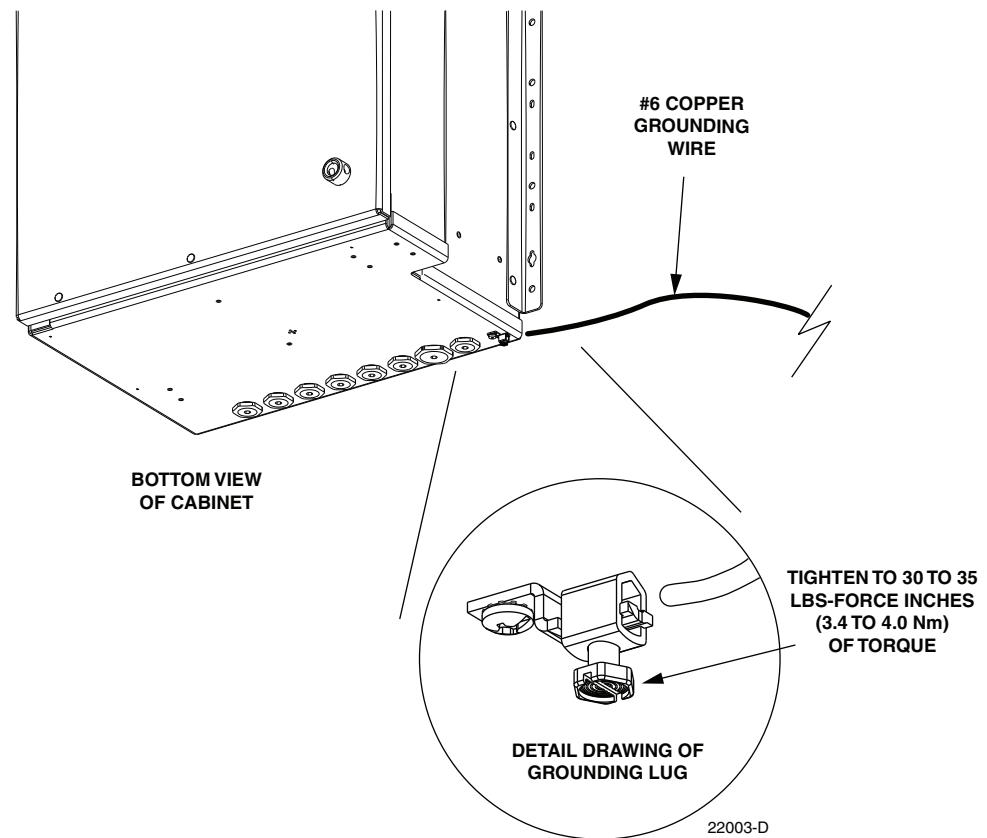

**Figure 12. Secure Cabinet to Plywood Backer**
- Secure the cabinet to the plywood backer as shown in Figure 12 using the sixteen 1/4 x 1-1/2-inch lag screws and 1/4-inch flat washers. Tighten lag screws securely.